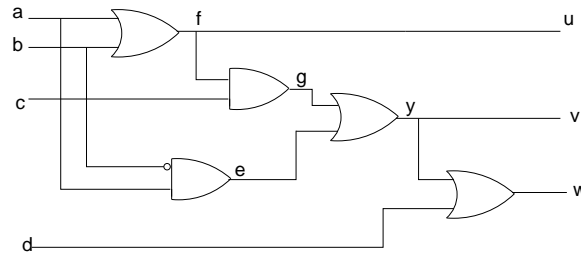

Fig. 1: The circuit for equivalence checking
- 1) **[Simulation vector generation, 10 points]** Consider the circuit of Fig. 1. You are asked to identify an input vector that excites  $u = 1, v = 1, w = 0$  at the primary outputs. Formulate and solve the problem using SAT.
- 2) **[Equivalence checking, 25 points]** Consider, again, the circuit of Fig. 1. Assume that this is the specification circuit.